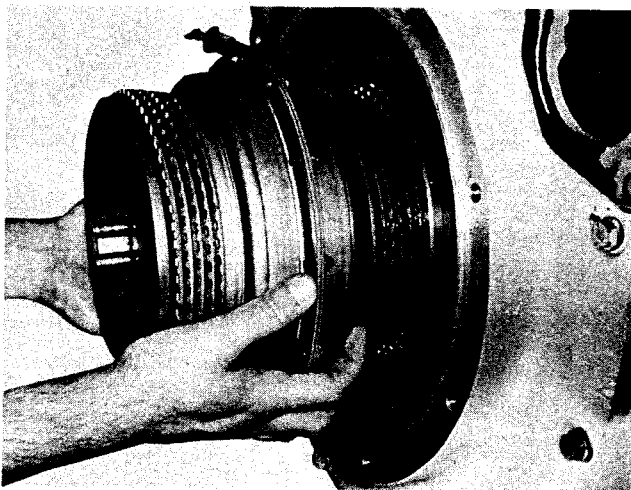

Fig. 5-9, (V22001). Installing Capitol gear clutch assembly
6. Place clutch assembly over splined stub shaft and align clutch plates to enter spline of driving drum. Slide into driving drum until clutch assembly seats. Fig. 5-9.